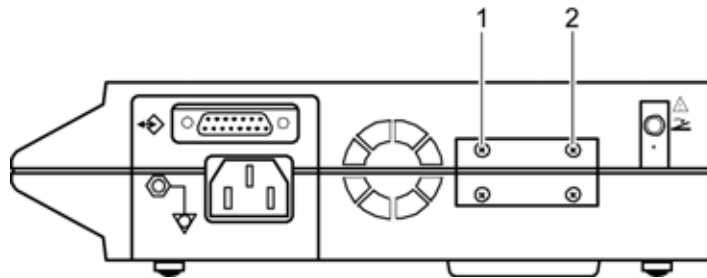

Figure 13: N-550 Rear Panel Screws
2. Remove the two rear panel screws. See Figure 13.